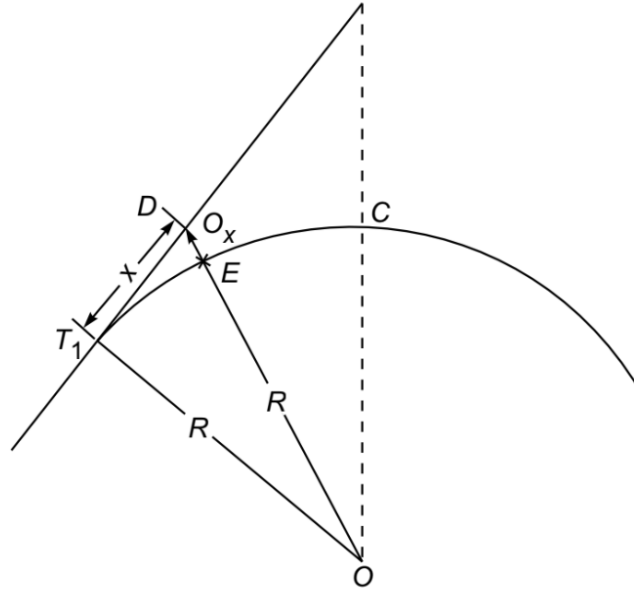

Fig. 2.8
- (i) **Radial offsets:** Referring to Fig. 2.8, if the centre of curve O is accessible from the points on tangent, this method of curve setting is possible.